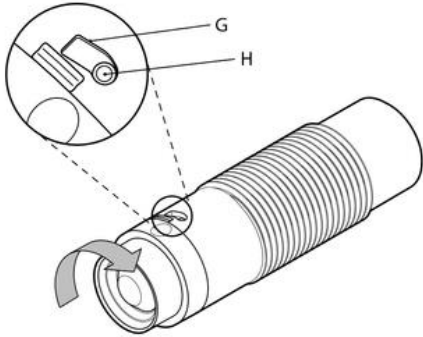

Fig. 6
2. Insert the main part back into the sleeve. Make sure that the locking slot (G) aligns with the pin (H). Turn the main part in the indicated direction to lock it (Fig. 6).